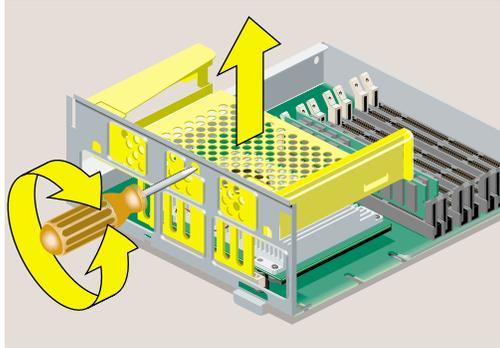

Figure 3 Releasing the PCI tray From the System Module
- Insert a screwdriver in the small opening shown in Figure 3. Use a twisting motion to release the PCI connector from the slot on the system module. Then use an up and down motion to release the PCI tray.